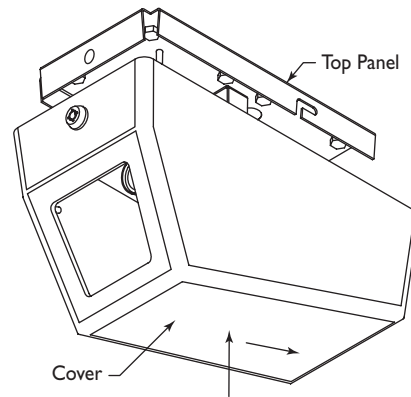

Figure 14: Replacing the Cover
1. Mount the cover by aligning the studs with the slots on the top panel and pushing up and back. See **Figure 14**.